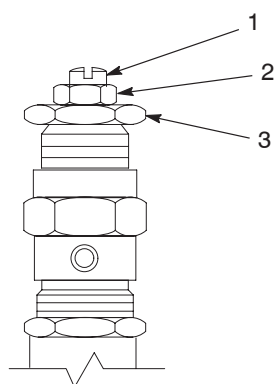

Figure 9-4 Location of loading screw and nuts on a module
1. See Figure 9-4. Use a box-end wrench to loosen the top locking nut (2) on the module.
2. Hold the loading screw (1) in place with a screwdriver and use a box-end wrench to turn the micro-adjuster nut (3) as follows:
See Figure 9-4. To adjust a loading screw, loosen the locking nut (2) at the top of the module, turn the loading screw (1) with a screwdriver, and then tighten the locking nut. Turn the loading screw as follows: